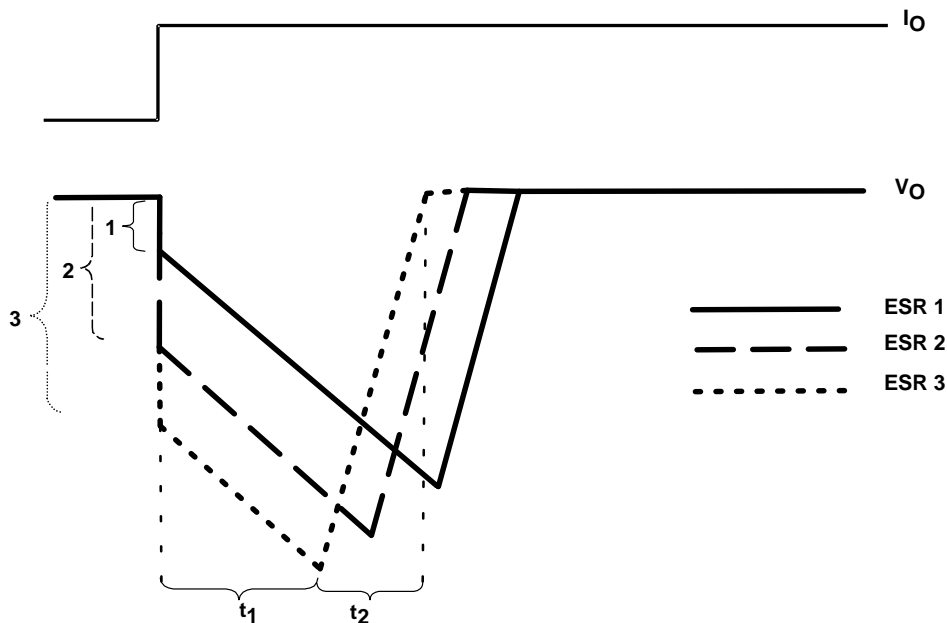

Figure 39. Correlation of Different ESRs and Their Influence to the Regulation of  $V_O$  at a Load Step From Low-to-High Output Current
- When  $C_O$  is conducting current to the load, initial voltage at the load will be  $V_O = V(C_O) - V_{ESR}$ . Due to the discharge of  $C_O$ , the output voltage  $V_O$  will drop continuously until the response time  $t_1$  of the LDO is reached and the LDO will resume supplying the load. From this point, the output voltage starts rising again until it reaches the regulated voltage. This period is shown as  $t_2$  in Figure 39.